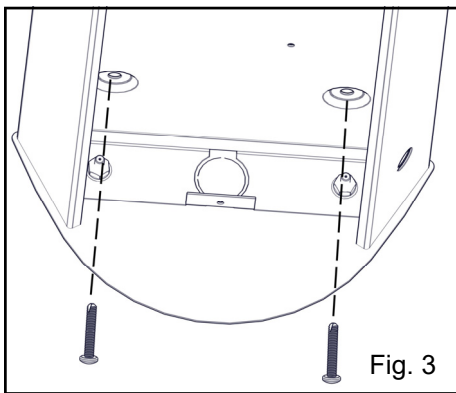

Fig. 3
8. Mount the luminaire to the mounting surface using two (2) wood screws at each end or appropriate hardware (by others). If no joists are present, use toggle bolts (by others). Fig. 3